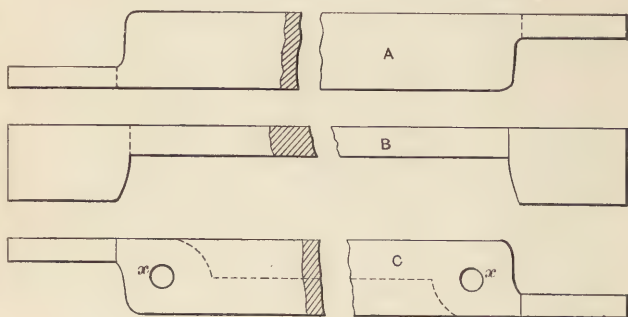

Fig. 10
**Tongs**, like fullers, flatters and swages, are made by drop forging, so that the blacksmith has very little of this kind of work to contend with by hand. In fact, it does not pay to bother to make any but special tongs that are wanted at once and cannot be purchased or that it would take some time to get by sending for them. A quick and handy way to make a pair of light tongs is indicated in Fig. 10. Take a piece of flat stock of the size required and flatten the ends as shown in the two views, *A* and *B*. Then punch holes *x x* and